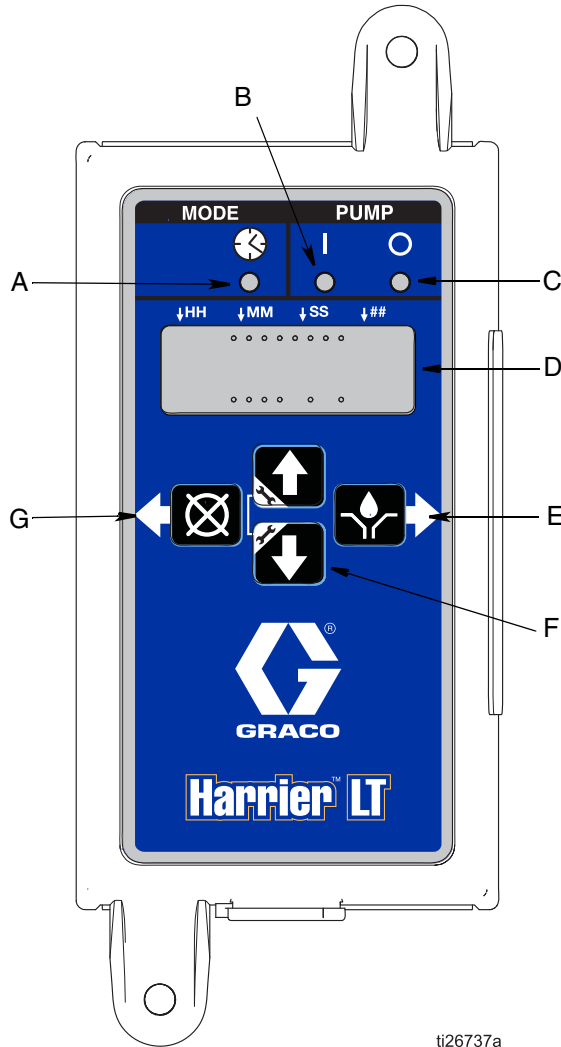

FIG. 8 Harrier LT Controller
5. Press and hold the controller's up and down arrows simultaneously for 3 seconds to place the unit in setup mode. See FIG. 8 on page 16.